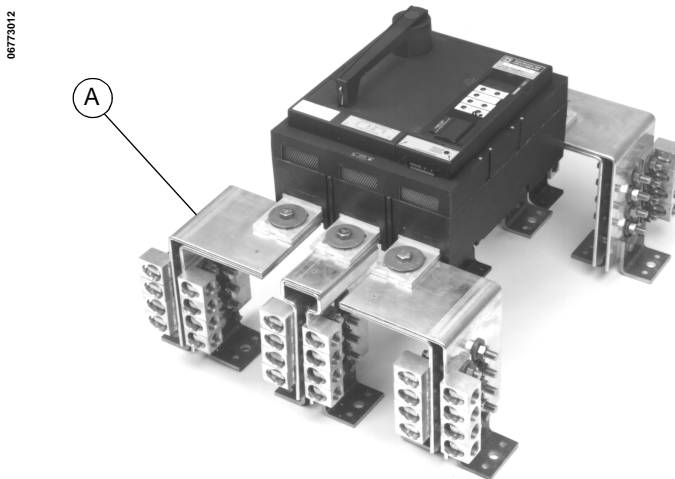

Figure 16: Installing Lugs and Conductors
12. Install lugs and conductors according to instructions packed with the lugs. Acceptable lug and conductor ranges are indicated in Table 3. Use the hardware provided on each terminal pad (A, below) to mount up to eight lugs. Discard hardware packed in lug kits. Distribute lugs evenly on each side of terminal pad (Figure 16). Lugs can be rotated 180 degrees from position shown.